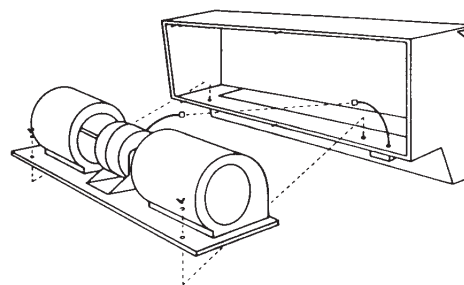

Figure 3 - Removing Motor/Blower Assembly
5. Carefully disconnect motor power cord and plug assembly and remove the two wing nuts on motor/blower base. (See Figure 3.)